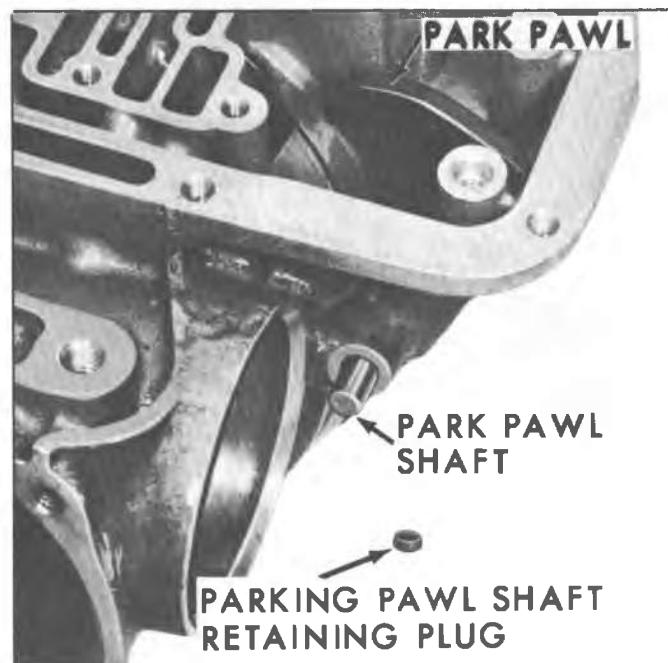

Fig. 7A-27B--Parking Pawl Shaft Retaining Plug, Parking Pawl Shaft and Parking Pawl
12. Remove parking lock; lock bracket (fig. 7A-25B). (Special Bolts).